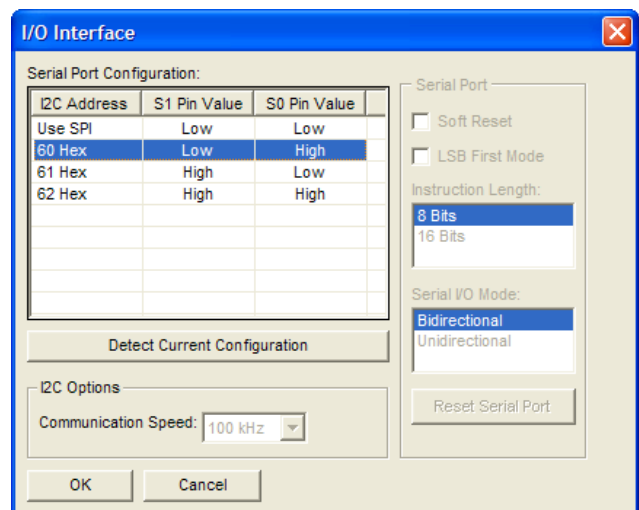
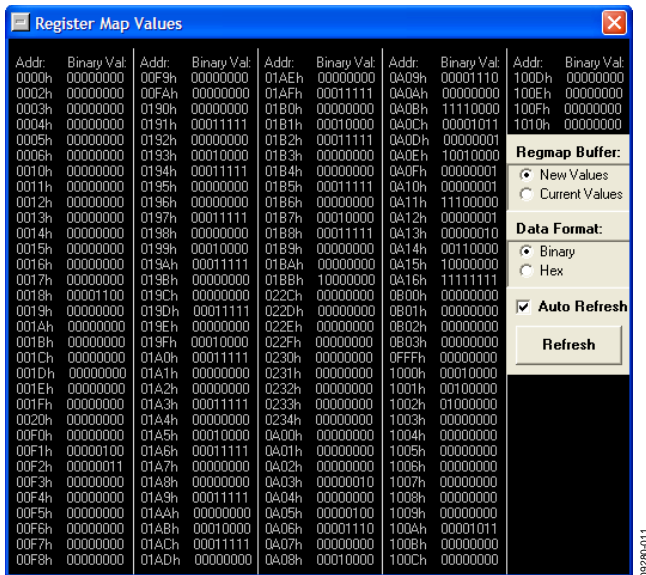

Figure 8. Serial Port Configuration Window
Figure 10. Register Map Window
7. Click the **Reset Serial Port** button, and then click **Detect Current Configuration** (see Figure 8). A dialog box should appear to acknowledge the I2C mode and address.
Selecting **Configure Serial Port** from the **I/O** menu allows you to control how the USB controller interacts with the AD9523-1 serial port (see Figure 8) by configuring Register 0x0000 (shown as 0000h in Figure 10).
The **Register Map Values** window, accessed by selecting **Register Map Window** from the **View** menu, allows you to read registers (see Figure 10).